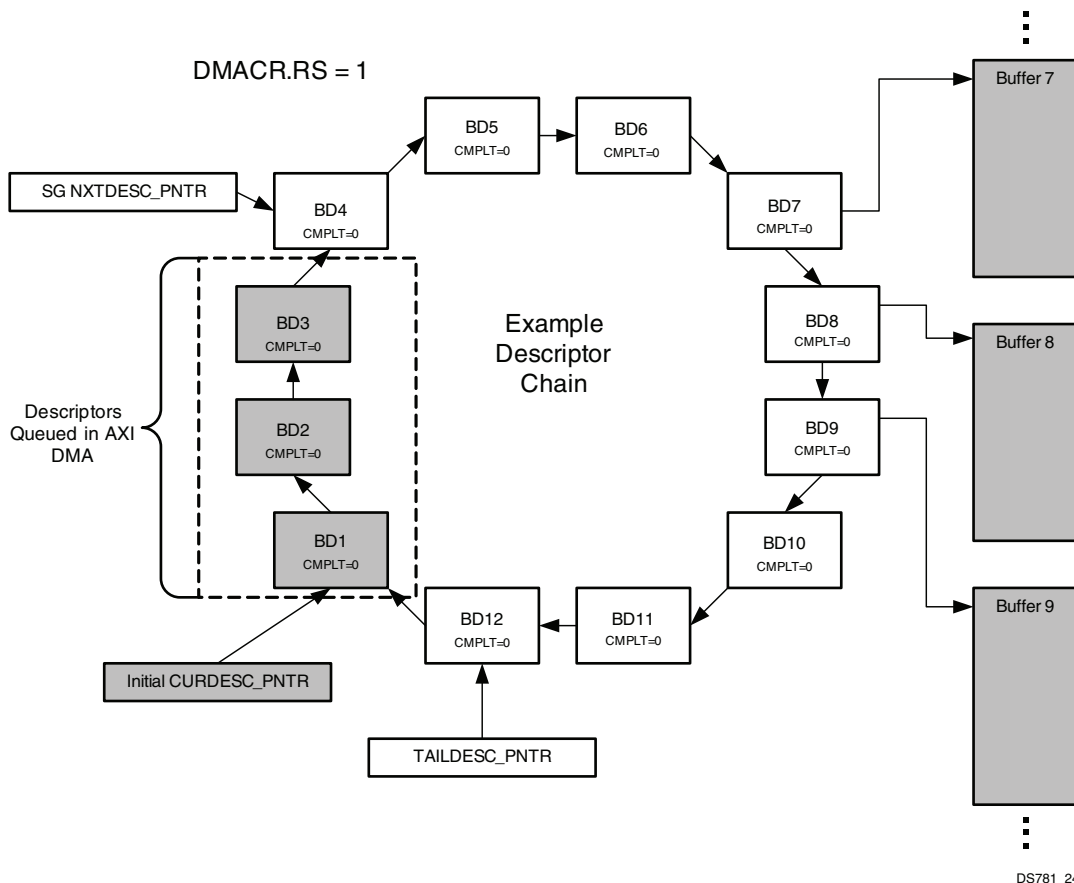

Figure 4-14: Beginning Execution
2. Beginning execution (DMACR.RS=1), as shown in Figure 4-14.